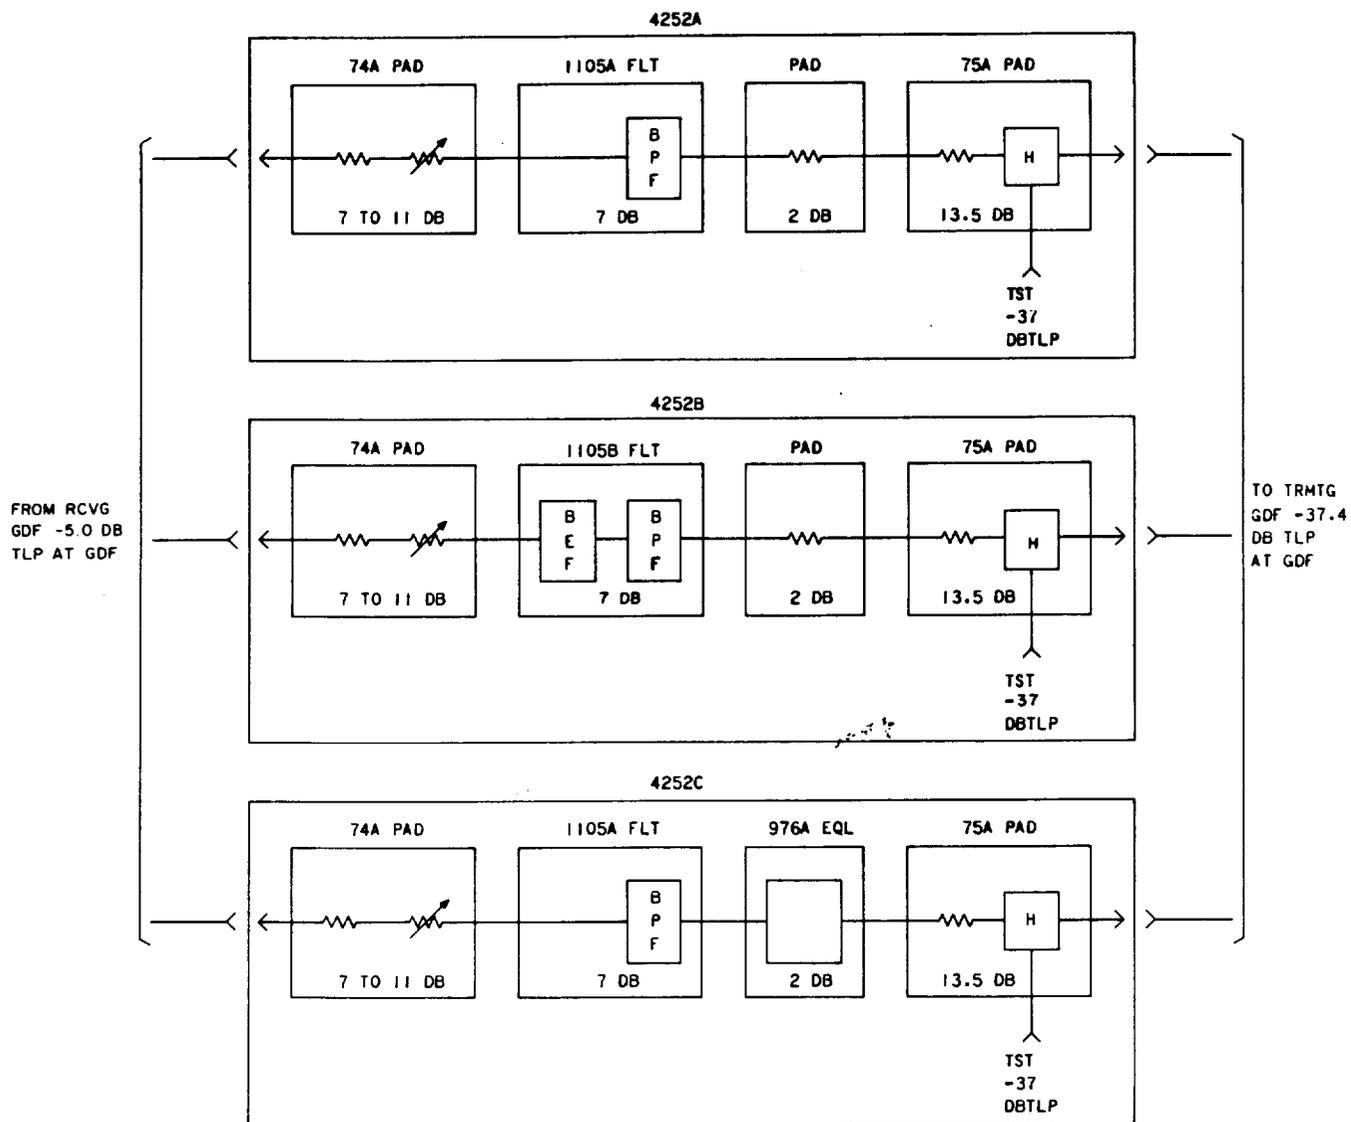

Fig. 2—B3 Group Connector, Simplified Schematic
2.01 The three configurations of the B3 group connector are shown in simplified schematic form in Fig. 2. The 74A pad at the input provides impedance matching and an adjustable pad with an approximate range of 0 through 4.5 dB. The adjustable pad compensates for the loss of both the input and the output cables. The 75A pad at the output of each configuration provides impedance matching and a hybrid-derived test jack that can be used on an in-service basis without affecting transmission.